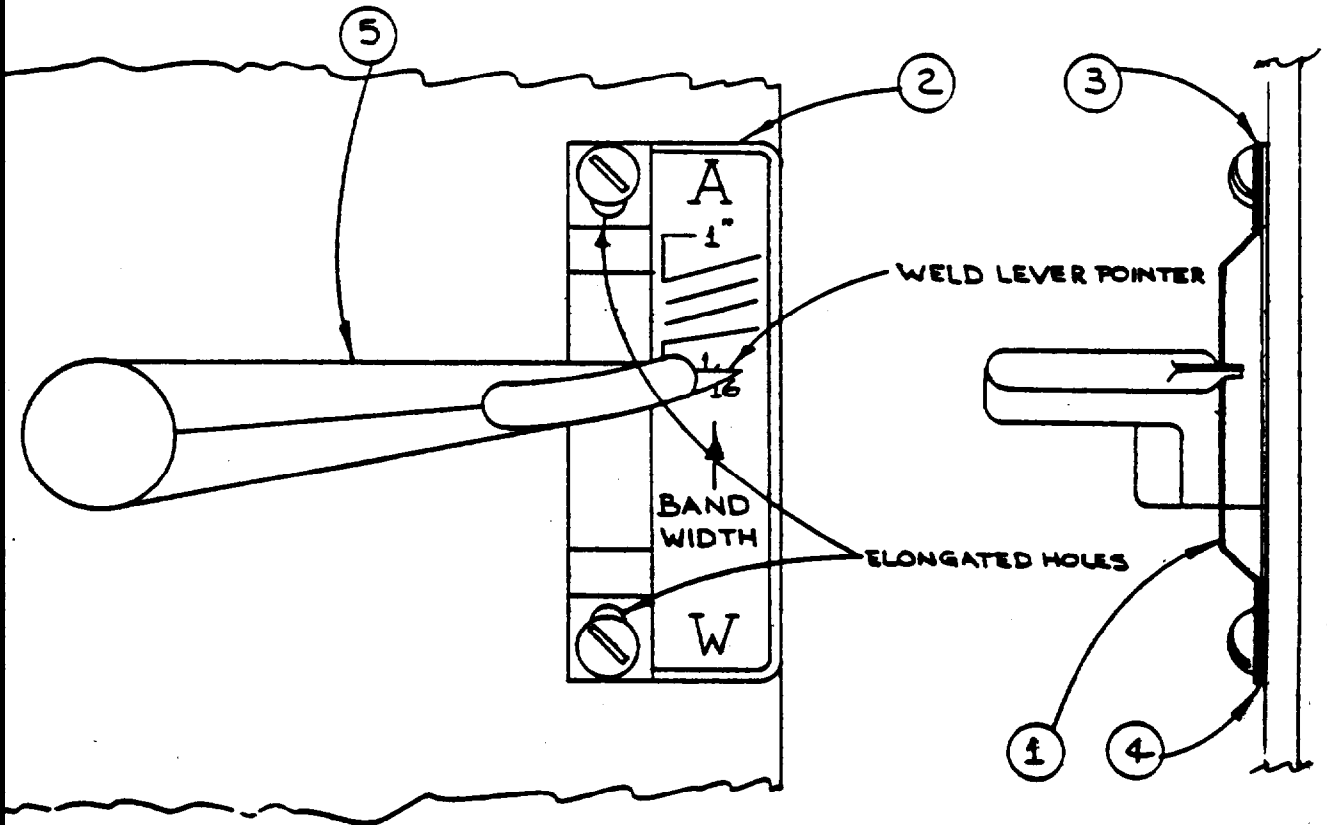

FIG. 5
The weld lever drag spring (item 1, fig 5) serves two functions: First, the upper corner acts as a detent to locate the movable jaw for annealing band; and second, the force exerted by the spring against the weld lever provides the frictional drag to held the lever at any of the several required initial jaw gap settings for welding. This allows the operator to clamp a blade in the welder or adjust the upset force selector without disturbing jaw gap setting.
The spring is mounted on the band width escutcheon, (item 2, fig. 5). (Both are secured by two screws.) It is adjusted by shimming between the escutcheon and the spring. Shim as required to obtain both objectives. Shims under either top or bottom screws will effect function, however, the top shim (item 3, fig. 5) usually is used to establish detent, and the bottom shim (item 4, fig. 5) to establish frictional drag.
4. Move the escutcheon (note elongated holes fig. 5) so the weld lever pointer indicates the narrowest position (the bottom line on the escutcheon that also corresponds with 1/16" band - note fig. 5) and then tighten the two screws.